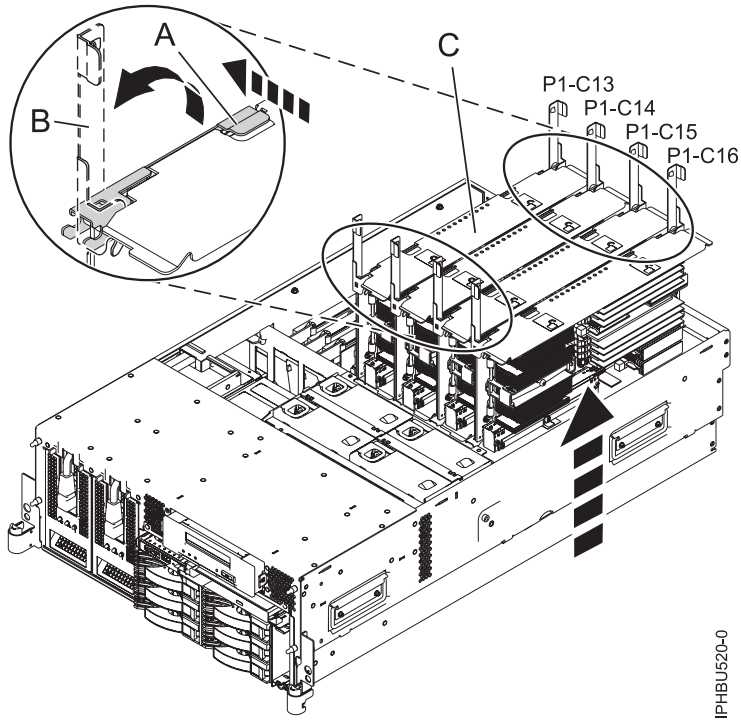
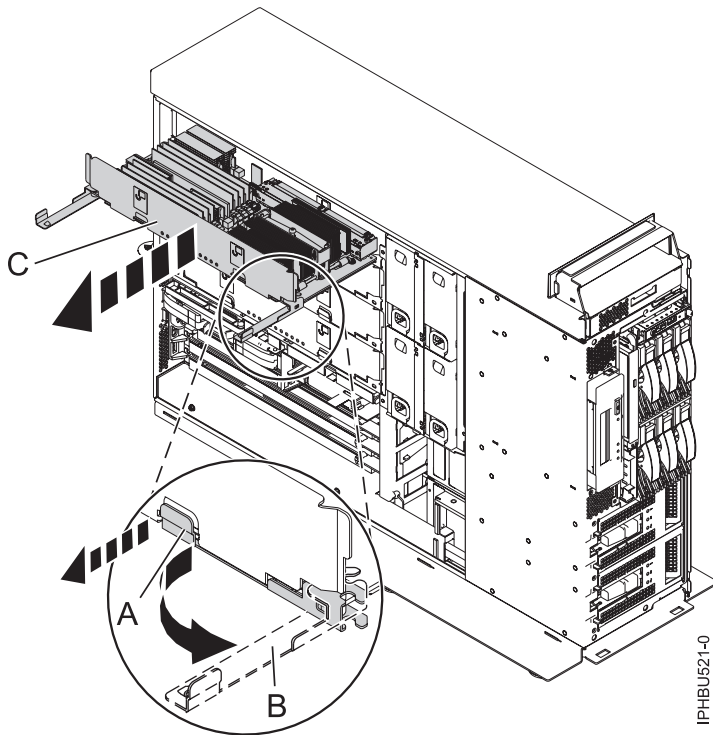

Figure 5. Removing system processor assembly from the backplane assembly in a rack-mounted model
Figure 6. Removing system processor assembly from the backplane assembly in a stand-alone model
7. As shown in Figure 5 on page 8 and Figure 6 on page 8, unlock the latches **(A)** on the system processor assembly. Using both hands, grasp the unlocked latches **(B)** to pull the system processor assembly **(C)** through the guide rails away from the system backplane assembly.